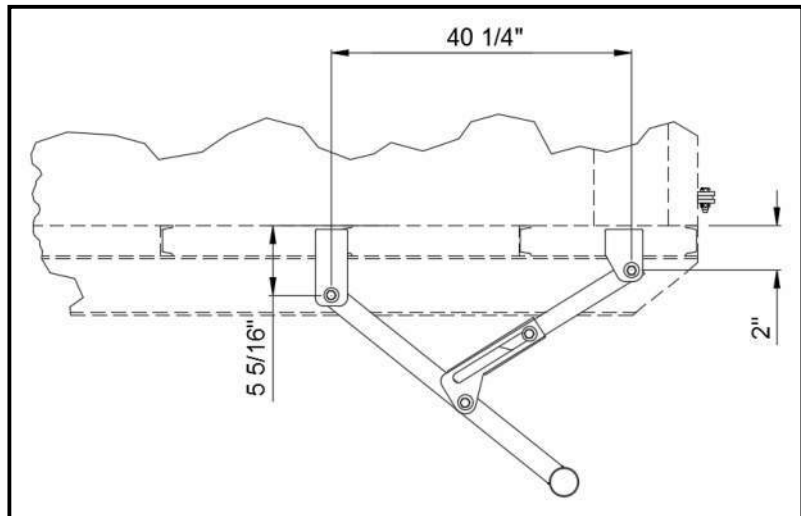

Figure 2
3. Weld the front [Part No. 62H87] and rear [Part No. 62H88] brackets to the support bars. Be sure to maintain the dimensions as indicated so that the bumper folds properly (See Figure 2 & 3).